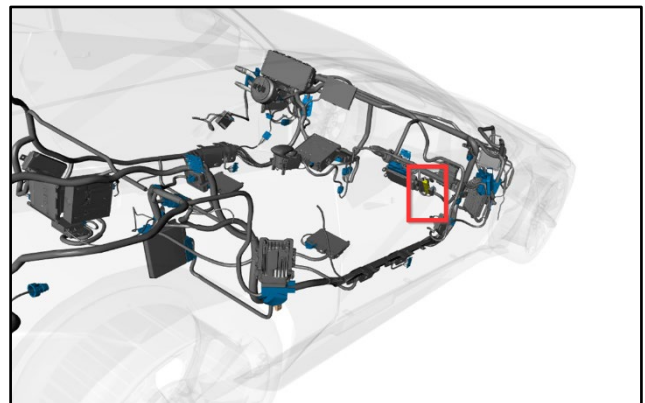

Figure 25
8. **HMI CAN** – This header is in the instrument panel next to the DRVU (refer to Figure 25).